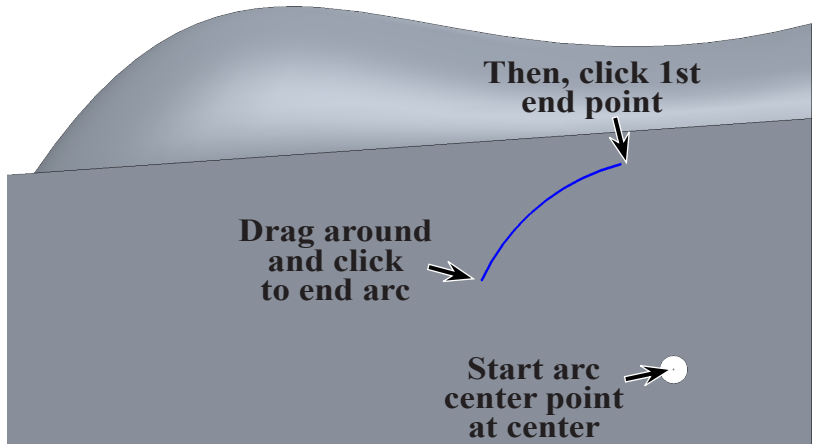

Fig. 80
Step 4. Click **Centerpoint Arc**  (S) in the **Arc flyout**  on the Sketch toolbar.
Step 5. Click the centerpoint of rear axle hole to start the arc and move the cursor to the upper right. Click to place the first endpoint of arc, then move cursor counterclockwise. Click to place the second endpoint, **Fig. 80**.